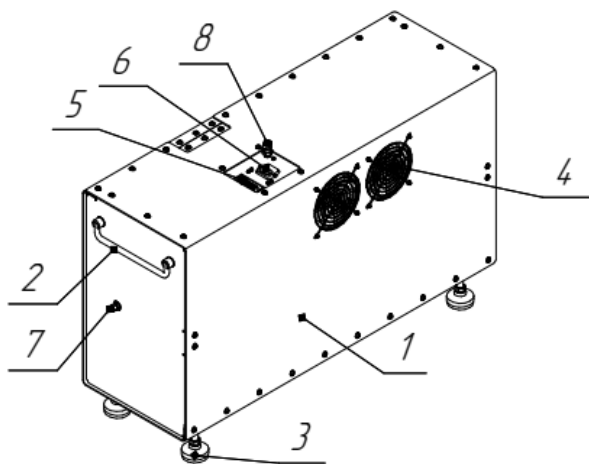

Fig. 4. Power unit
The appearance of the power unit is shown in Figure 4.
4.5 All elements of the power unit are located in metal housing 1 (Fig. 4) equipped with handles 2 for carrying it and adjustable feet 3. To ensure normal thermal conditions, the housing has vent openings 4 and fans (located on the opposite side). For connection to the control unit, there is connector 5 for the control cable and connector 6 for the power cable on the upper side of the housing. Fitting 7 is intended for bleeding the system, while fitting 8 is intended for connecting the power unit to the control unit.